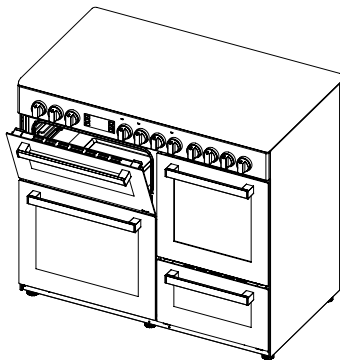

Figure 18
3. Place the safety panel under control panel by opening the oven front cover glass. (figure 18)